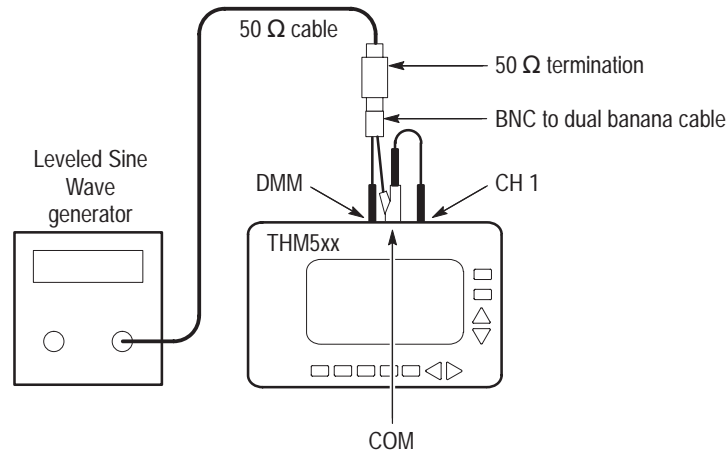

Figure 9: Crosstalk between DMM and scope test Setup
1. Connect the leveled sine wave generator output to the THM500 series instrument DMM and COM inputs. Use a 50 Ω termination as shown in Figure 9. Assure that the ground connection for each adapter connects to the common (or ground) connector of its associated instrument.
2. Connect the THM500 series instrument CH 1 input to the COM input using a patch cord as shown in Figure 9.